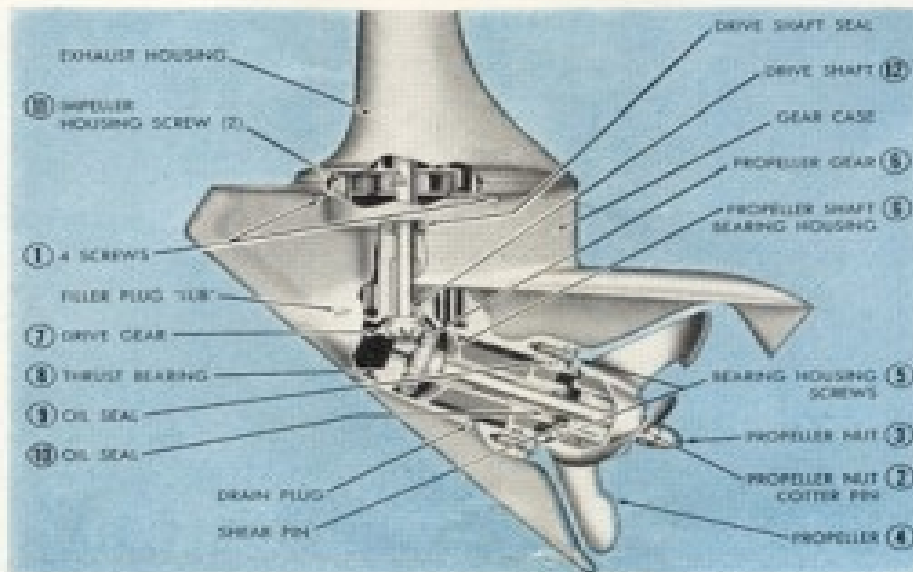

Fig. 18
PROPELLER SLIP CLUTCH (Fig. 18) The propeller is driven by a circular serrated rubber slip clutch located inside the propeller hub. Upon striking any underwater obstruction, this clutch absorbs the shock by momentarily disengaging the propeller, then firmly engaging again after obstacle is past.
When this happens, the motor continues to run without the propeller rotating. Naturally, the boat does not move. In such a case, stop motor immediately. Remove the propeller nut and cotter pin (Fig. 18) from the end of shaft. Remove propeller and propeller clutch hub and drive out the sections of the sheared pin and insert a new pin, several of which are included in the motor tool kit. If you have no spare pin, use a nail in emergencies. Fragments of the old pin, may also be used by placing large section in one side of hole in shaft and the two smaller sections on the other side. Replace propeller clutch hub, propeller, propeller washer, propeller nut and cotter pin.
(see illustration, Fig. 18, Page 16). First remove 4 screws (1) securing housing to gear case. This permits removal